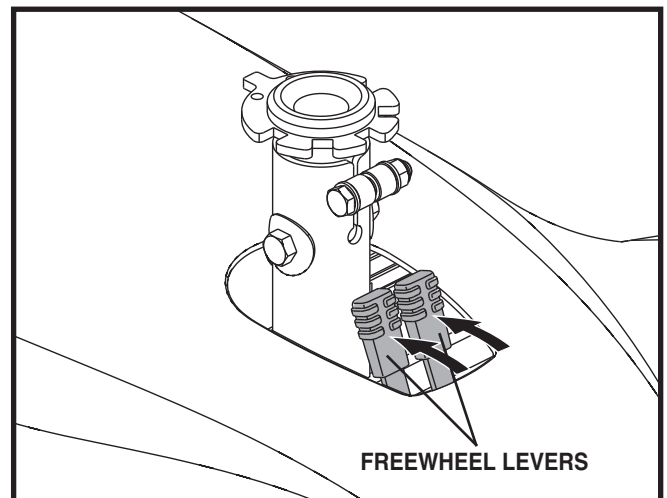

Figure 5. Freewheel Mode (Drive Disengaged)
3. Pull both levers rearward toward the seat post to disengage the drive motors (freewheel mode). **See figure 5.**